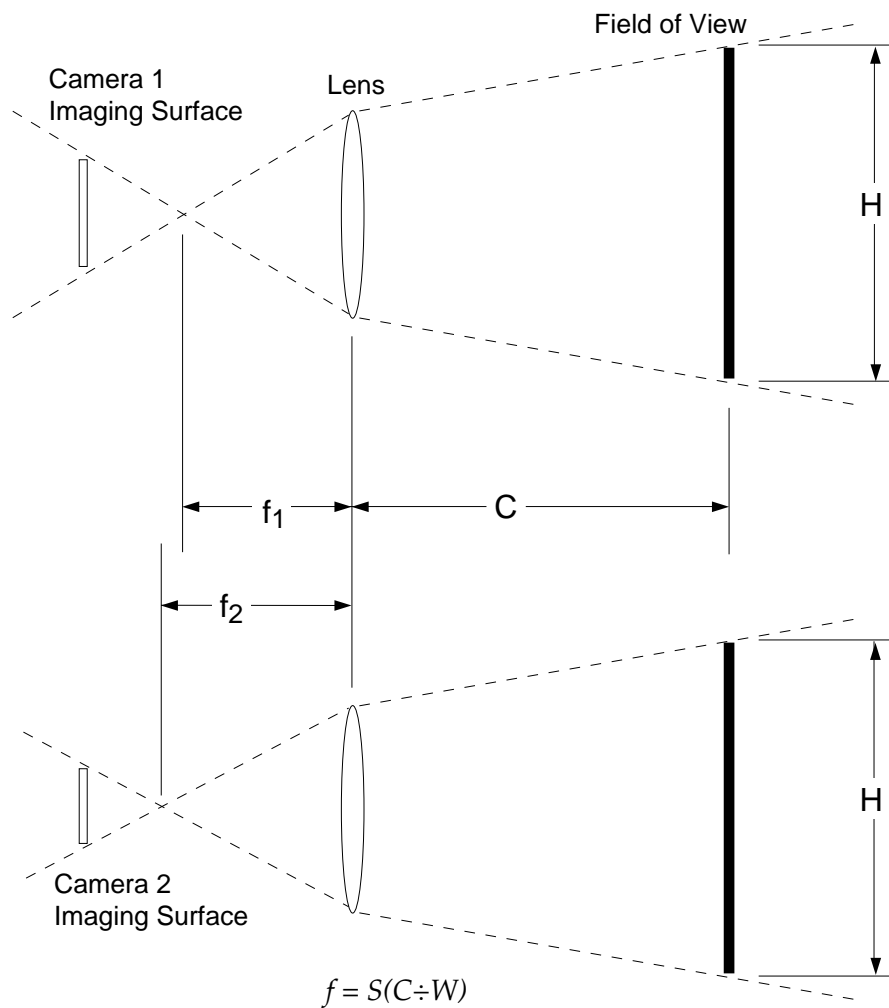

Figure C-2. Camera Scale Factor
**Figure C-2** illustrates these relationships and the meaning of the camera scale factor. In the two examples in this illustration, the field-of-view width and the camera-to-object distance remain constant while two cameras with different size imaging surfaces are used. In order to keep the image within the imaging surface on both cameras, different focal length lenses must be used. By applying the correct camera scale factor for each camera (based on the imaging surface size), the correct lens focal length can be determined.